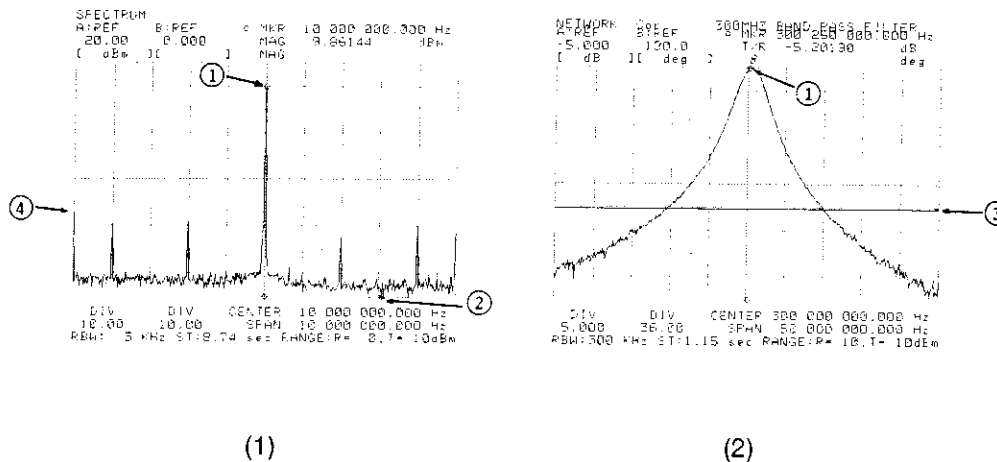

Figure 4-13. MKR→MAX, MIN, LCURS→AVRG and NEXT PEAK
To move the marker or line cursor to the position with the maximum value, press the '**MKR→MAX**' softkey or the '**LCURS→MAX**' softkey, respectively. If this softkey is pressed in the o & * markers mode (active oMKR) the o marker will move to point 1 as shown in Figure 4-13.
To move the marker or line cursor to the position with the minimum value, press the **'MKR→MIN'** softkey or the **'LCURS→MIN'** softkey, respectively. If this softkey is pressed in the **o & * markers mode** (active ***MKR**), the ***** marker will move to point 2 as shown in Figure 4-13, (1).
To move the line cursor to the position with the average value for the measurement data, press the **'LCURS→AVRG'** softkey. If this softkey is pressed in the **o marker & Line Cursor mode**, the line cursor will move to position 3 as shown in Figure 4-13, (2).
To move the marker to the next lower peak referenced to the current peak, press the **'NEXT PEAK'** softkey. If this softkey is pressed after the **'MKR→MAX'** softkey in the **o & * markers mode** (active **oMKR**), the **o** marker will move to point 4 as shown Figure 4-13, (1).